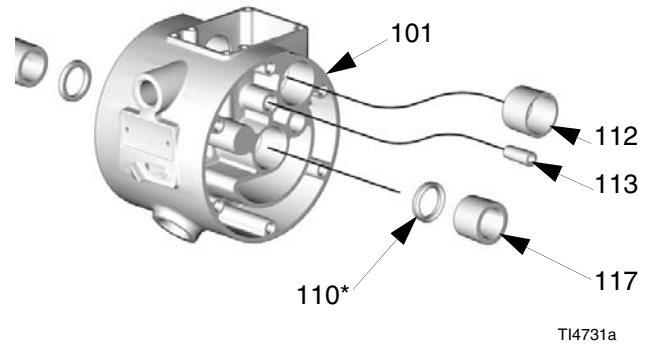

FIG. 24
4. With both fluid covers removed, using two 5/8 in. wrenches hold the wrench flats (Y) on the plates of each diaphragm assembly and loosen. One diaphragm assembly will come free and the other will remain attached to the shaft.
6. Remove plate (444) with bolt (143) installed, diaphragm (446), backer (447) if present, and plate (445).
8. Inspect the diaphragm shaft (121) for wear or scratches. If it is damaged, inspect the bearings (117) in place. If the bearings are damaged, refer to **Bearing and Air Gasket Removal** on page 27.
9. Reach into the center housing (101) with an o-ring pick and hook the u-cups (110), then pull them out of the housing. This can be done with the bearings (117) in place. See FIG. 24, page 27.
1. Install the shaft u-cup packings (110*) so the lips face **out** of the housing (101). Lubricate the packings. See FIG. 24, page 27.
2. Apply high-strength (red) Loctite® or equivalent to attach the bolt (446a) to the diaphragm (446), if needed. Assemble the air side plate (445) onto the diaphragm (446). The wide, radiused side of the plate must face the diaphragm. Apply medium-strength (blue) Loctite® or equivalent to the threads of the diaphragm assembly. Screw the assembly into the shaft (121) hand tight.
3. Grease the length and ends of the diaphragm shaft (121). Insert the shaft/diaphragm assembly into one side of the pump.
8. If you removed the diaphragm shaft bearings (117) reach into the center housing (101) with an o-ring pick and hook the u-cups (110), then pull them out of the housing. Inspect the u-cups. See FIG. 24. Replace parts as needed.